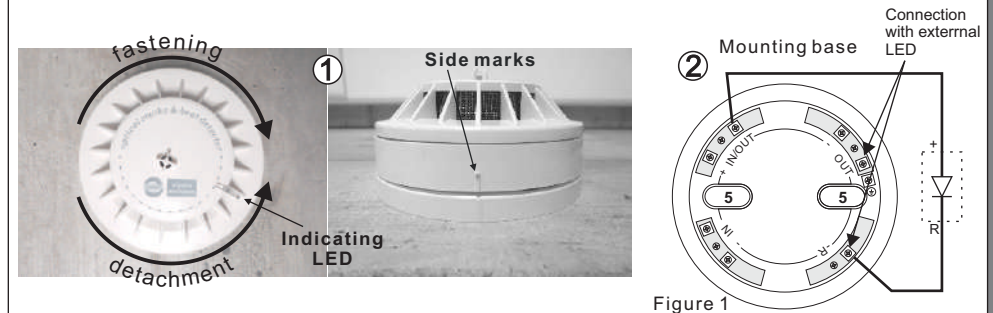

Figure 1
3. Connect the power cables (minding the mounting correct polarity) according to the requirements of the installation (Figure 1, 2).